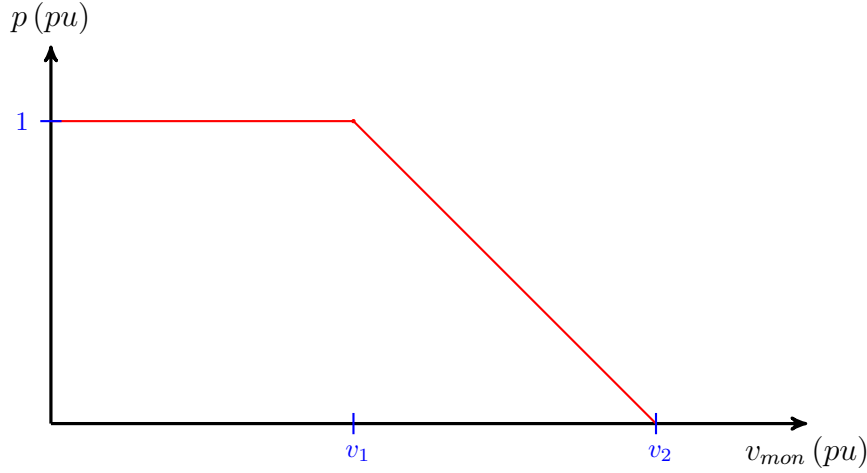

Figure 10: volt-watt curve
**Smart inverter volt-watt function** For the smart inverter volt-watt function, the monitored voltage in  $pu$  is applied,  $v_{mon}[t]_j$ , in the volt-watt curve defined in the *voltwatt\_curve* property to obtain the active power limit value in  $pu$ ,  $p_{Lfun}[t]_j$ . The Figure 10 shows an example of an user-defined volt-watt curve.